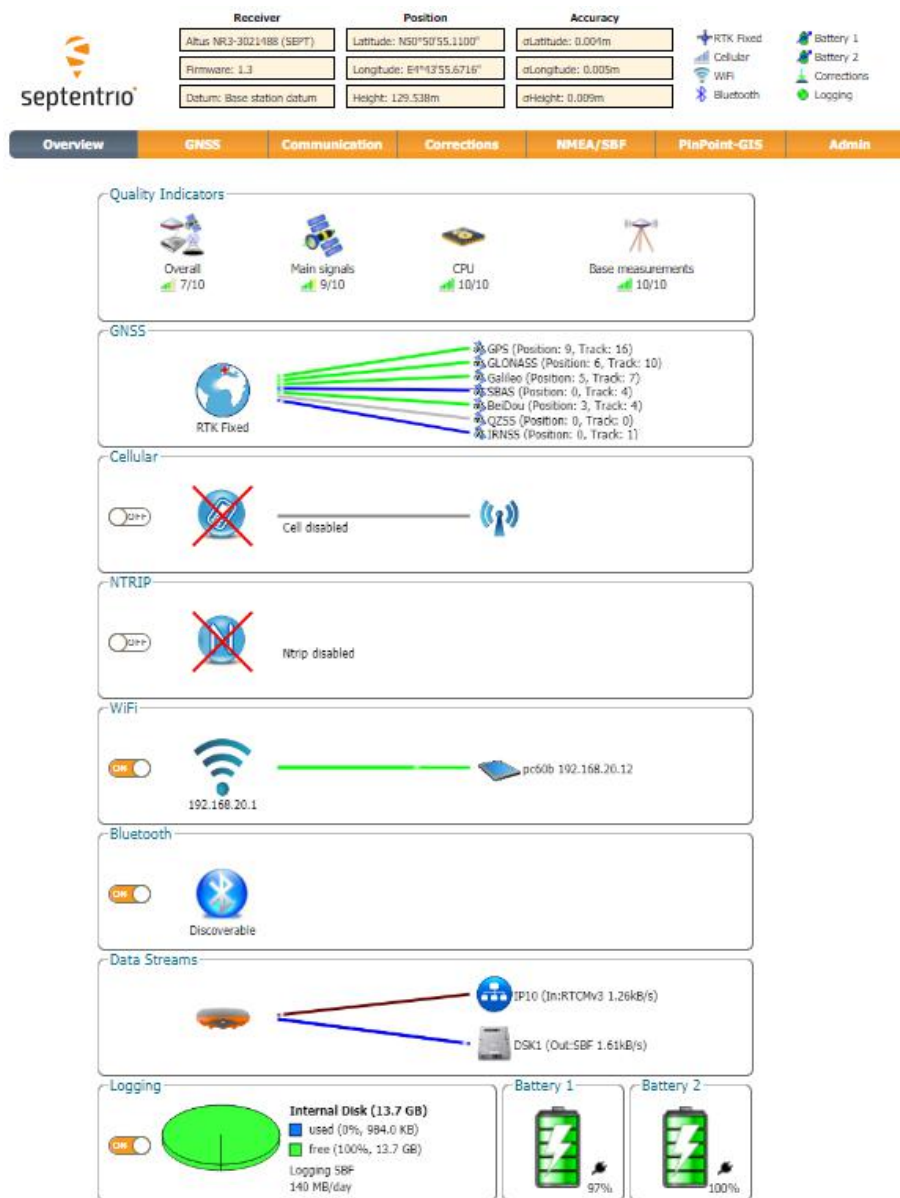

Figure 3-3: Web Interface Overview Tab
4. Open a browser and type the IP **192.168.20.1** or **altusnr3/** in the address bar. The browser will open the 'Overview' page of the Web Interface shown in Figure 3-3.